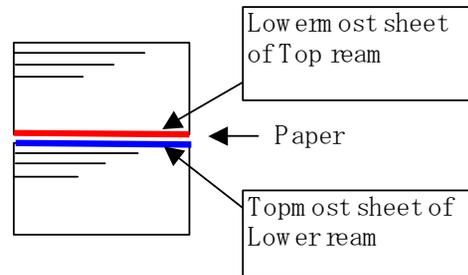

Fig.1
- 2) As shown in Fig. 1, remove the lowermost sheet of the top ream, as well as the topmost sheet of the lower ream.